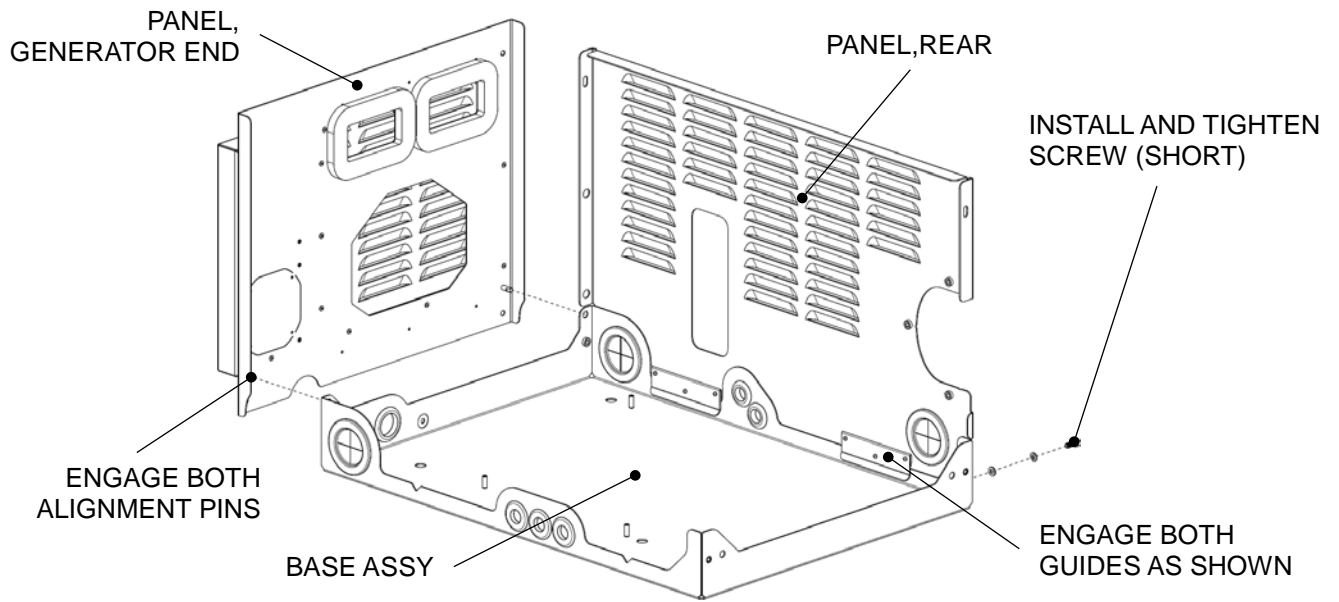

FIGURE 1
1. Install *PANEL, REAR* onto *BASE ASSY*. Ensure both guides on bottom engage vertical wall of the *BASE ASSY*. Install and tighten screw (short) with lock washer and washer through *PANEL, REAR* into *BASE ASSY* (see **FIGURE 1**).
2. Install *PANEL, GENERATOR END* onto *BASE ASSY*. Ensure both alignment pins engage. Install and hand-tighten two lower screws (long) with lock washer and washer through *PANEL, GENERATOR END* into *BASE ASSY* (see **FIGURE 1**).